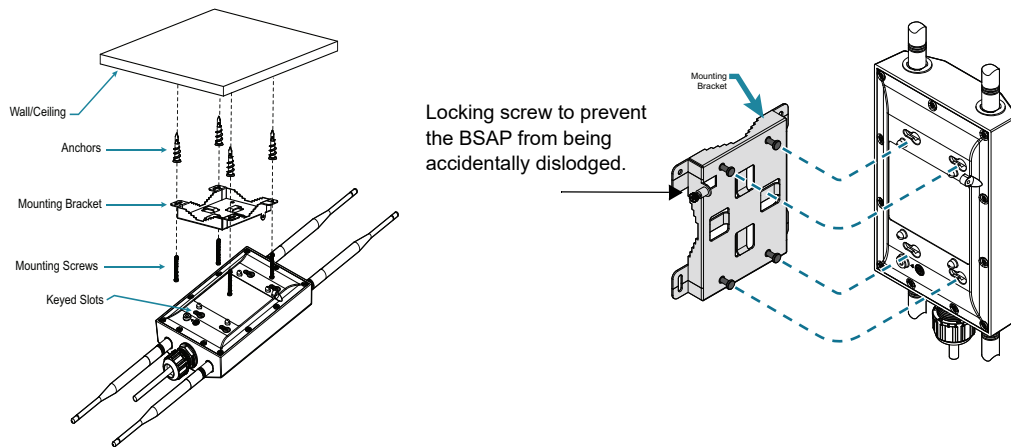

Figure 2. Installing the BSAP 6120 on a Wall or Ceiling and Securing BSAP to Mounting Bracket
7. Place the mounting bracket flat against the anchors (so that the screw-mount holes are flat against the surface and align with the anchors) and secure the bracket to the surface using the appropriate mounting screws. The protruding mounting tabs should face outward, so that the BSAP can slide onto the bracket once the bracket is secured to the surface (refer to Figure 2 on page 3).
8. Slide the keyed slots on the back of the unit's chassis securely onto the bracket's protruding mounting tabs, and secure the BSAP 6120 to the bracket by installing and tightening the locking screw (as shown in Figure 2).